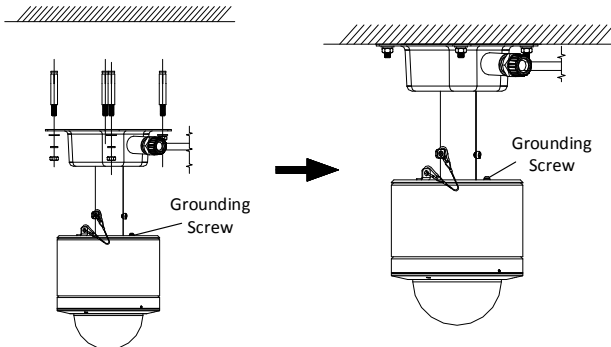

Figure 2-11 Mount the Bracket and Explosion-proof Dome
- Fix the mounting bracket onto the wall by inserting the four expansion screws. Insert the flat washer and the spring washer. Then tighten the four screws to secure the installation plate as shown in Figure 2-11.